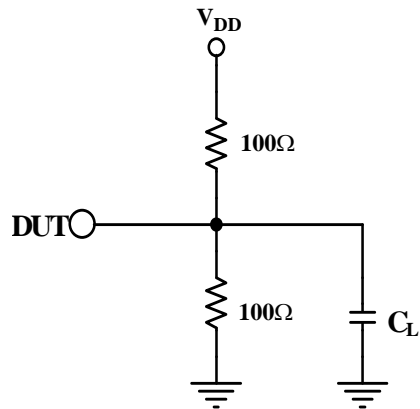

Figure 3.
- When measuring the dynamic supply current, all outputs are loaded in accordance with the equivalent test load defined in figure 3.
1. Test load =  $40\text{pF}$ , terminated to  $V_{DD} \div 2$ . All outputs are equally loaded. Reference Figure 3 for clock output loading.